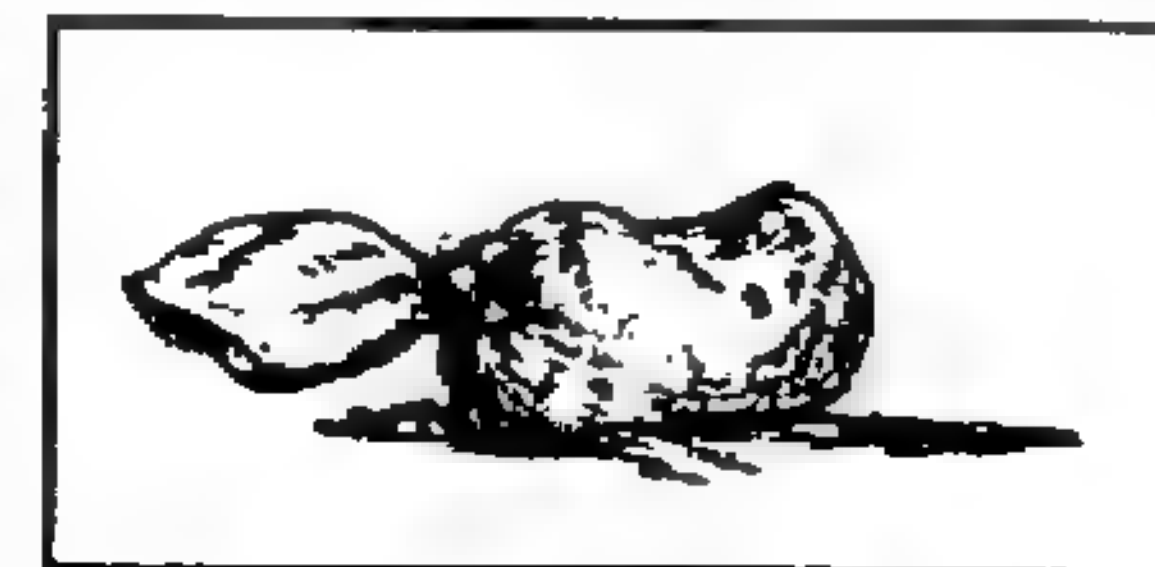

Figure 3-9. Sand sock.
(1) **Sand sock.** The sniper needs the sand sock when delivering precision fire at long ranges. He uses a standard issue, olive-drab wool sock filled one-half to three-quarters full of sand and knotted off. He places it under the rear sling swivel when in the prone supported position for added stability (Figure 3-9). By limiting minor movement and reducing pulse beat, the sniper can concentrate on trigger control and aiming. He uses the nonfiring hand to grip the sand sock, rather than the rear sling swivel. The sniper makes minor changes in muzzle elevation by squeezing or relaxing his grip on the sock. He uses the sand sock as padding between the weapon and a rigid support also.